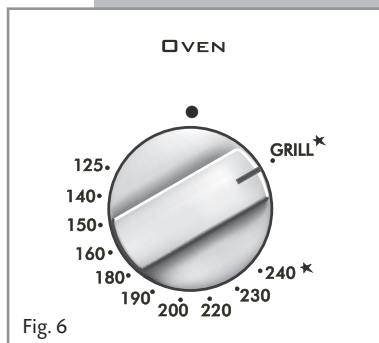

Fig. 6
- 2) Press thoroughly and turn clockwise the oven gas thermostat knob fig. 6 to set symbol **GRILL***.